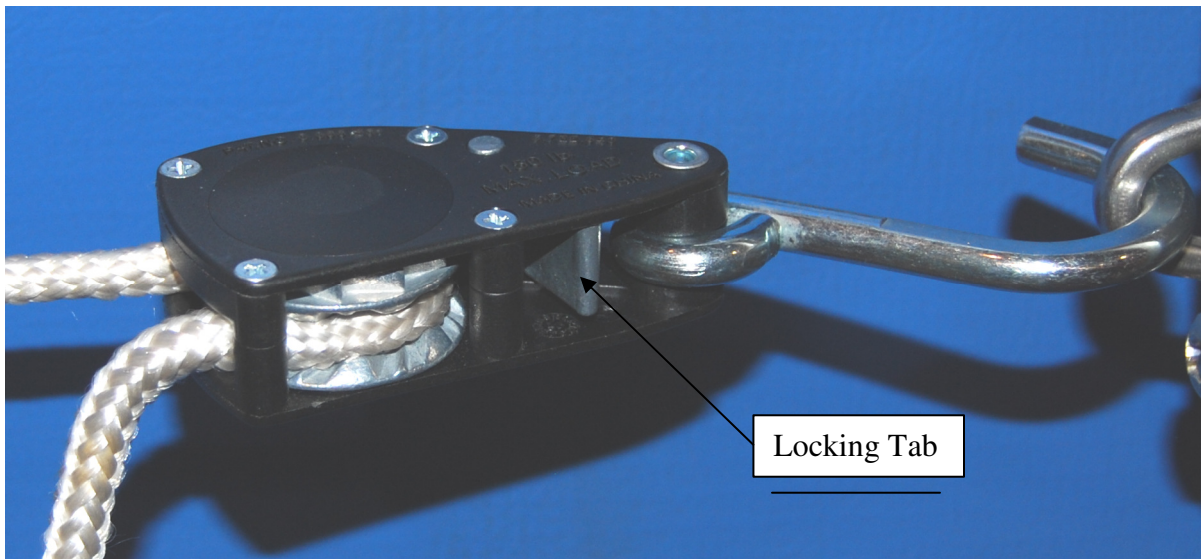

Figure 5
Rear posts are to be 1' ft higher than the front post assembly, they apply pressure up, and back. The four (4) 'J' stakes placement are recommended, one on each of the net back corners and two along the back at eight (8) feet apart between corners. These stakes must be completely inserted into the earth as a safety measure. The "rope ratchets" are used for ease of adjustments to net position, they are self loading. Insert 1/8 rope onto the left or top side and the rope will feed itself through up and over the internal wheel relieving the pressure on the locking tab, next to the hook; this unlocks the pressure when the rope is tight and installed. See Figure 5 (picture)